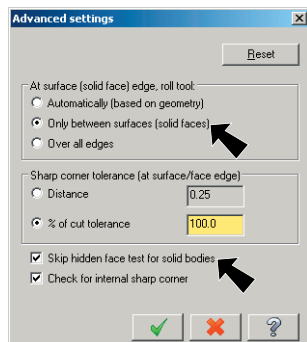

Fig. 47
Step 13. Select **Only between surfaces (solid faces)**, Fig. 47.
Step 14. Select **Skip hidden face test for solid bodies** and click OK  twice, Fig. 47.